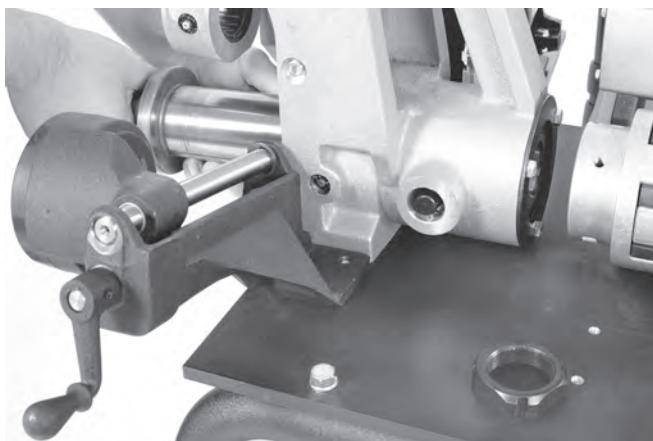

Figure 25 – Removing Drive Shaft Assembly
- Remove the drive shaft from the front of the groover (*Figure 25*).